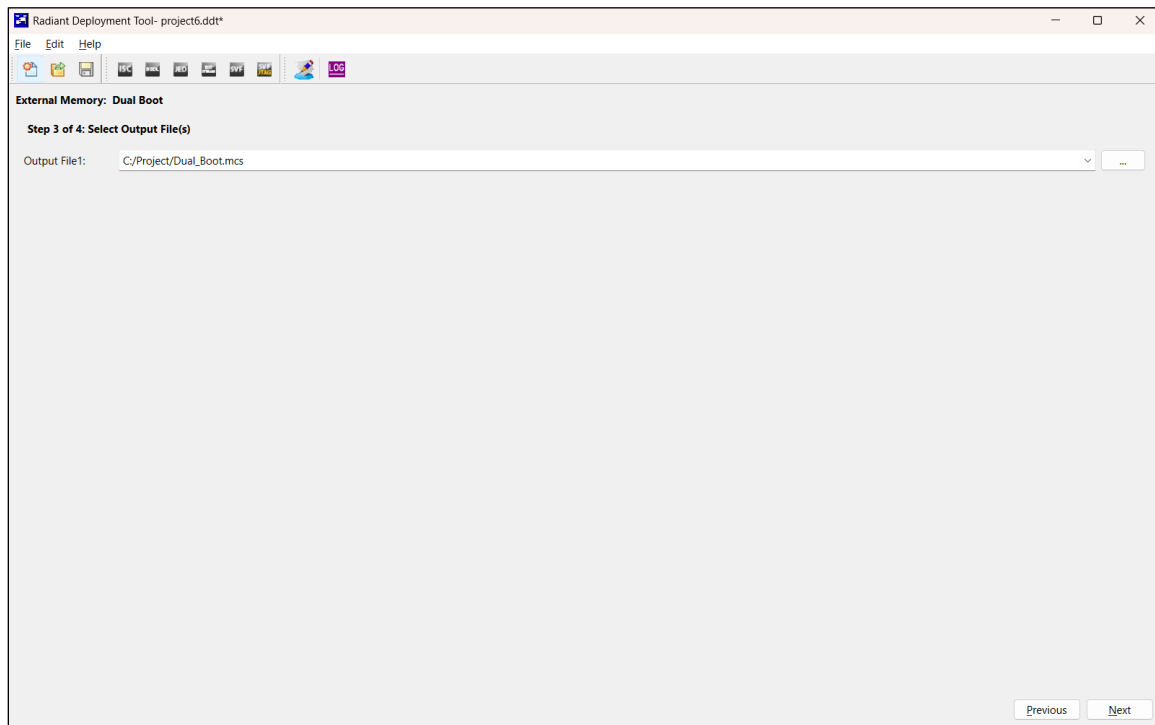

Figure 7.5. Select Output File(s) Window
Step 3 of 4: Select Output File(s) window (Figure 7.5)